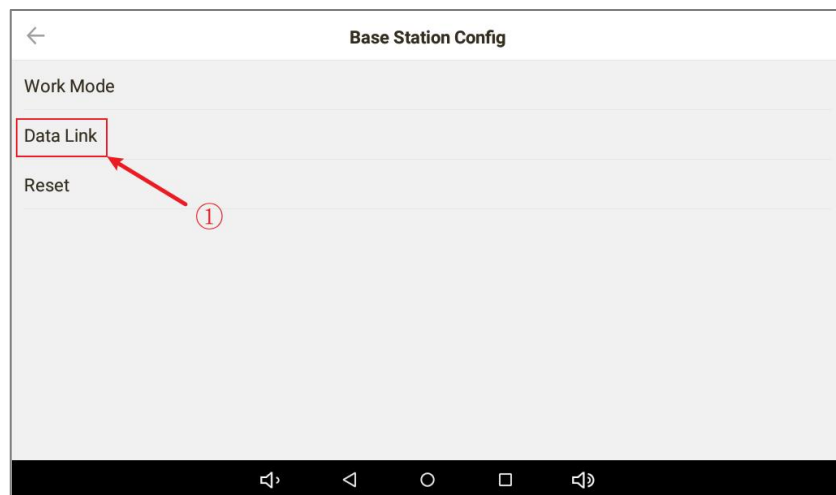
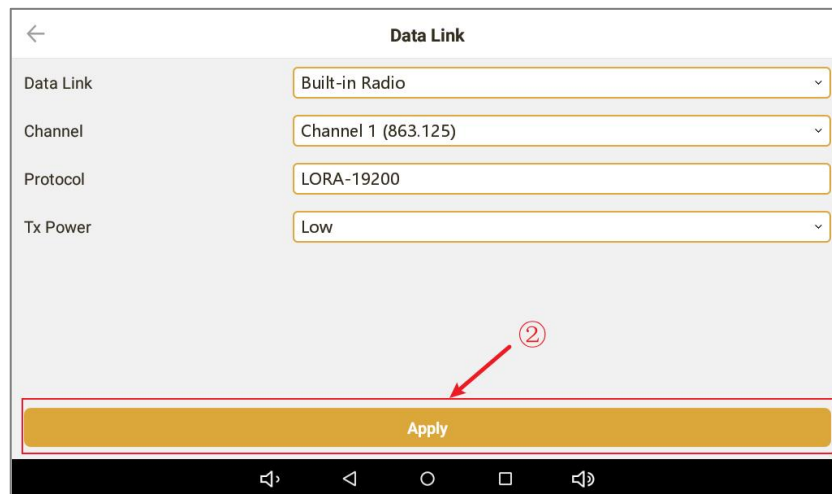
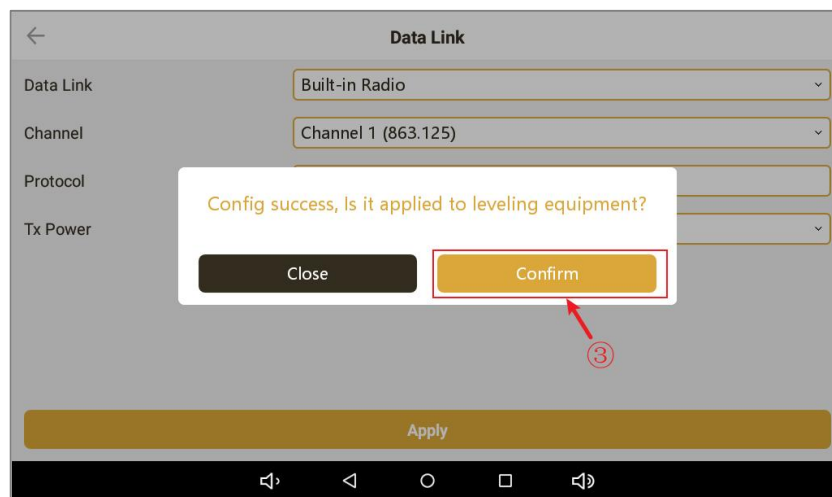
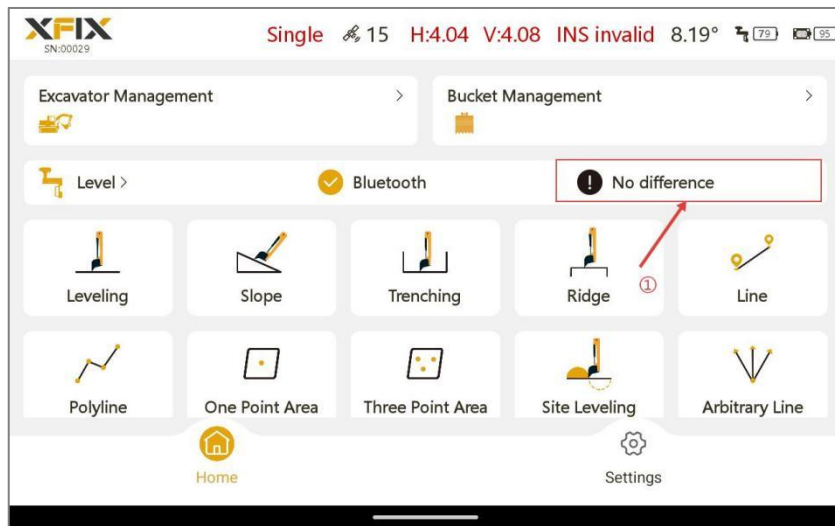

Figure 3-10
Figure 3-11
Figure 3-12
Figure 3-13
- ⑤ Configure the radio: Tap 'Data Link', as shown in Figure 3-10, to enter the 'Data Link' screen, then tap 'Apply' at the bottom, as shown in Figure 3-11. In the pop-up window 'Config success, Is it applied to leveling equipment?', tap 'Confirm', as shown in Figure 3-12.
- ② Configure the leveling instrument independently: Perform step 1 in the simultaneous configuration section (1) to connect to the leveling instrument via Bluetooth. Return to the Home screen, tap the differential setting item 'No Difference', as shown in Figure 3-13, then tap 'Difference Source' and select 'Built-in Radio'. Choose the radio channel that matches the base station, then tap 'Apply' as shown in Figure 3-11. The leveling instrument configuration is now complete.